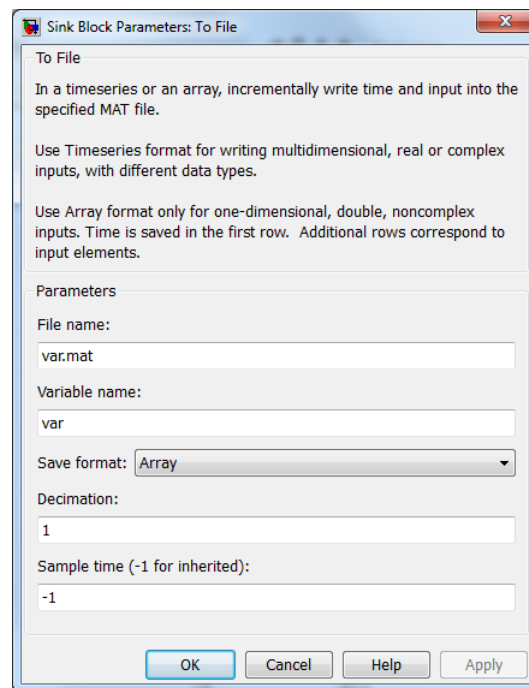

Figure 6. Sending data to a file
2.4. Recording data. To save measured data from the system, you may use a "To File" or "To Workspace" block. The standard time-series format does not work. Instead use one of the others, such as "Array" to export your data; see Fig. 6. You can load the stored data into the Matlab Workspace by using the command `load xxxx`, where `xxxx.mat` is the name of the stored MAT file. Note that the first row of the array in which the data is stored contains the time sequence; the other rows contain the stored signals. You can store multiple signals in one variable by muxing the signals with the Mux block in the Simulink Library Browser. Due to a limit in the QuaRC driver, the following steps has to be made to store data sequences longer than 10 seconds: **Hardware** → **Control Panel** → **Signal & Triggering** → **Trigger options**, you should increase the duration to an appropriate value.